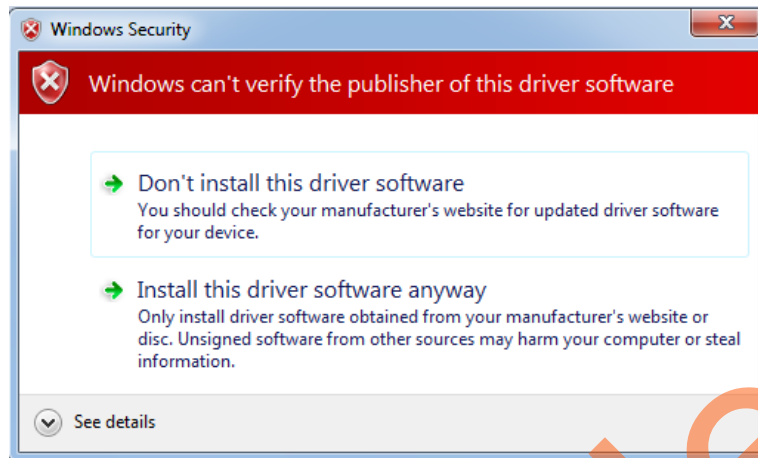

Figure 9 • Windows Security
4. Click **Install this driver software anyway** if the window appears as shown in Figure 9.